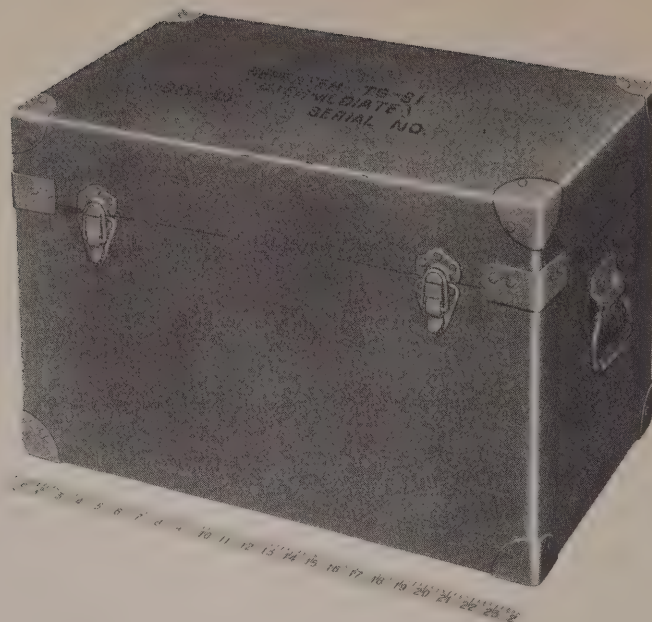

Figure 1 - Repeater TG-31 (Intermediate),
2. EQUIPMENT ARRANGEMENTS.—The repeater is portable and housed in a durable wooden carrying case which completely encloses all equipment while in transit. (See fig. 1.) The major component parts are a repeater unit